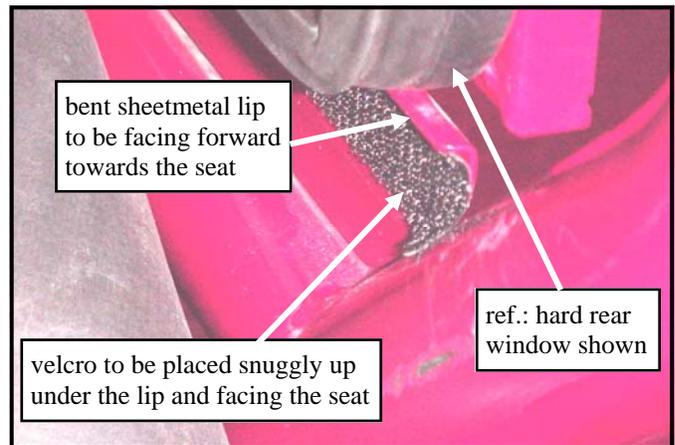
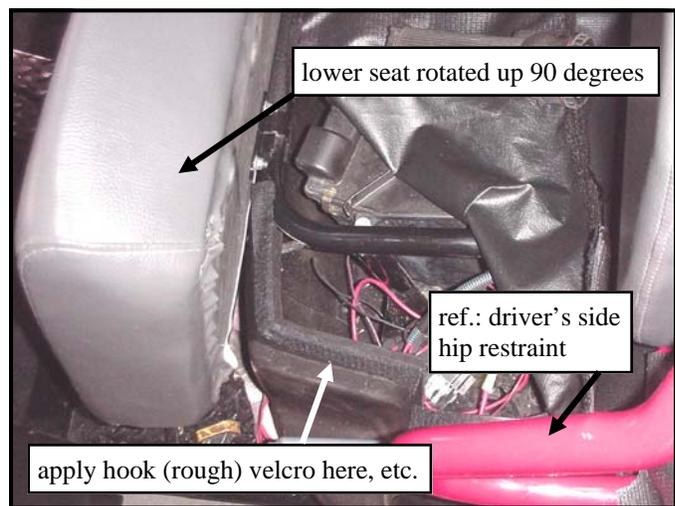

Fig. 1.1 (view from front of passenger's side of vehicle)
Fig. 1.3 (view from side of driver's side)
1.1 If a hard rear window will be installed, make sure the sheetmetal filler underneath the expanded metal screen is reversed so the small bent lip faces forward as shown in Fig. 1.1 (this acts as a shelf for the hard rear window to rest on). Remove and re-install three (3) bolts holding this filler in place. Note: this filler can also be reversed even for a soft rear curtain installation (in case down the road a hard rear window is desired).
1.3 Raise the lower seat 90 degrees as shown in Figure 1.3. Spread out the anti-draft panel as would appear to be appropriate. Panel may pass under seat and velcro to front of tube beneath front edge of seat. Pull back one area or section at a time in order to assess where to apply the hook (rough) velcro on the vehicle. Per Fig. 1.1, install four (4) pieces of hook (rough) velcro as high up as possible underneath the forward facing sheetmetal lip to the left and right sides of the bolt heads. NOTE: adhesive backed velcro should be applied to a clean, dry surface at room temperature.
3.1 CRITICAL: Make sure the sheetmetal filler underneath the expanded metal screen has the small bent lip pointing forward as shown in Fig. 1.1 on the previous page (this acts as a shelf for the hard rear window to rest on).
3.6 Install the rear curtain to the newly installed stud snaps and hook velcro. Note: the bottom of the rear curtain velcros to the top inside edge of the anti-draft panel which has factory installed mating loop (soft) velcro. If an anti-draft panel is not being used, then install the supplied loop (soft) velcro as high up as possible underneath the forward facing sheetmetal lip shown in Fig. 1.1 on the previous page. Cut the velcro into four pieces to go on the left and right sides of the bolt heads.